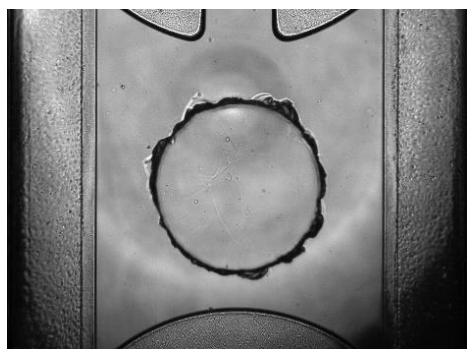

Figure 7: Endothelial vessels grown against an ECM gel in the OrganoPlate® Graft
13. An example of a tubule culture against ECM gel in the OrganoPlate® Graft is shown in figure 7.